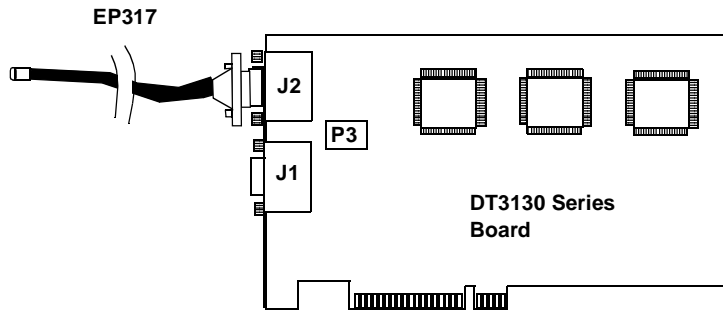

Figure 5: Connecting the EP317 Cable to Connector J2
1. After making sure power to the computer is off, push the 15-pin connector of one EP317 cable into the J2 socket at the rear of the DT3130 Series, as shown in Figure 5, then tighten the screws on the connector.